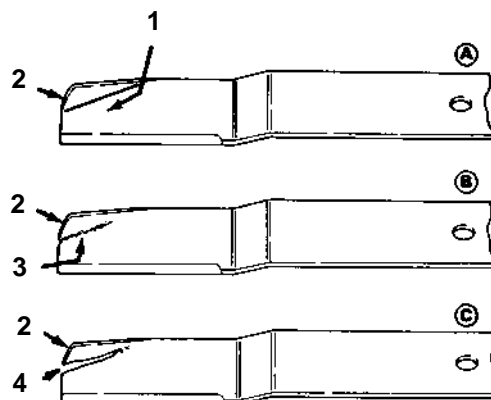

Figure 60
2. Carefully examine the cutting ends of the blade, especially where the flat and sail (curved part) meet (Fig. 60 A). Since sand and abrasive material can wear the metal connecting the flat and sail portions, check the blade before using the machine. If any wear is noticed (Fig. 60 B), replace the blade: refer to *Removing The Cutting Unit Blade* above.